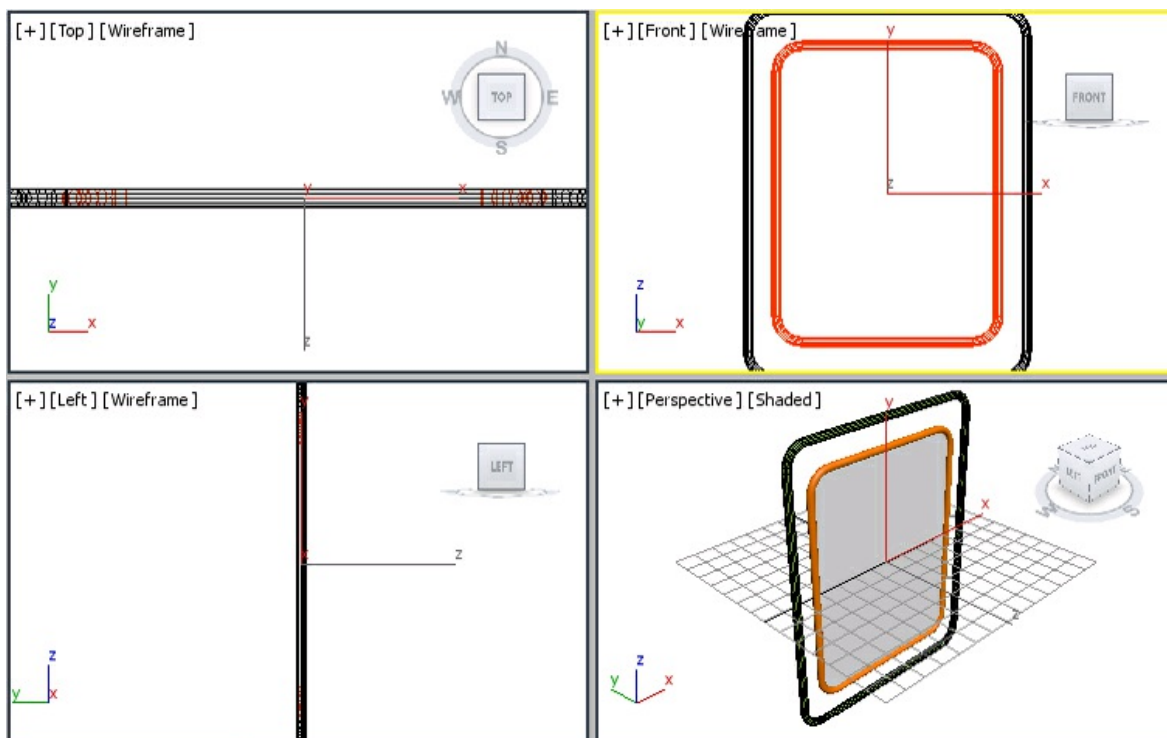

Figure 5-59 The rectangle displayed in the viewports
3. Choose the **Create** button; the rectangle is displayed in the viewports, as shown in Figure 5-59.